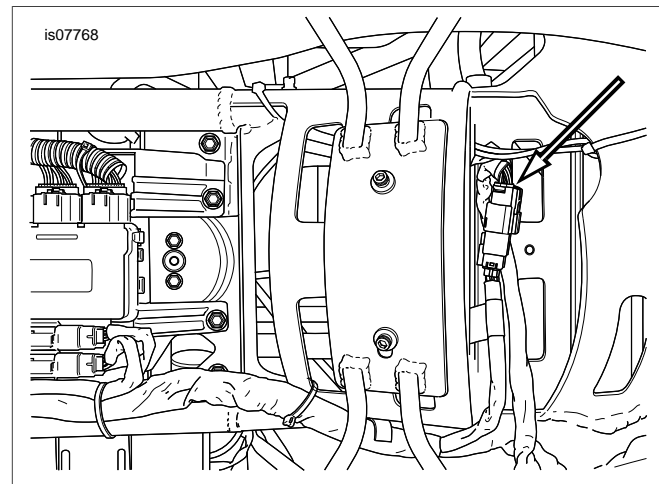

Figure 3. Rear Lighting Connector
14. See Figure 3. Separate the rear lighting connector [7A/B]. Plug the Y-harness between the main harness and the rear lighting harness.